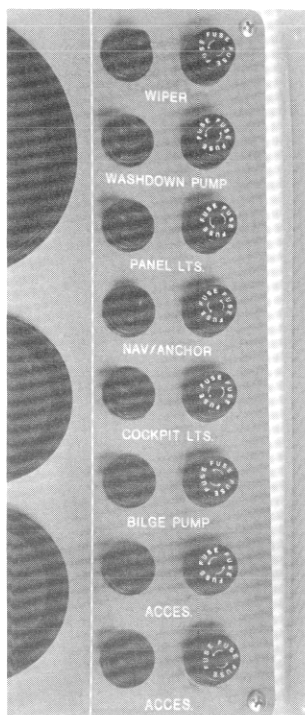

Figure 17
6. Test all switches on the accessory panel. See figure 17. Make sure the switches activate the equipment they control, and all equipment is in good operating condition.